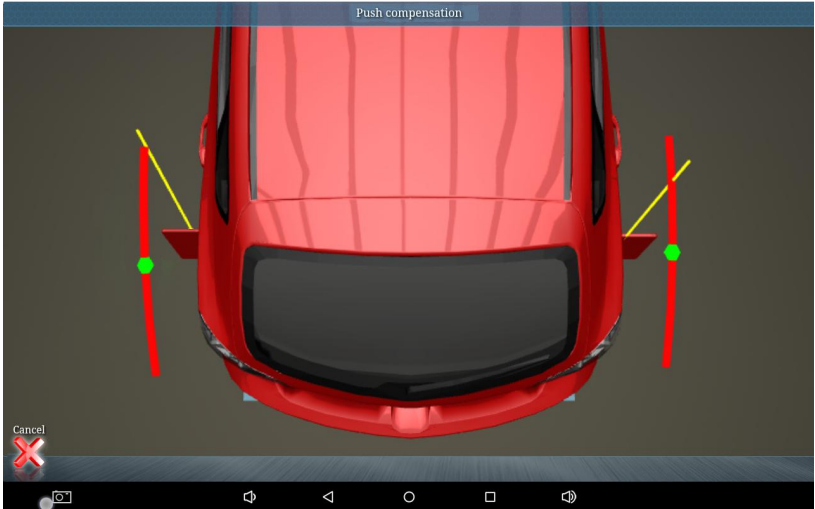

Figure 1
- 5) The push compensation interface is shown in Figure 1. First, slowly turn the left rear wheel backwards according to the prompt until the yellow reference line reaches the green dot position, as shown in Figure 2, stop rotating. ;